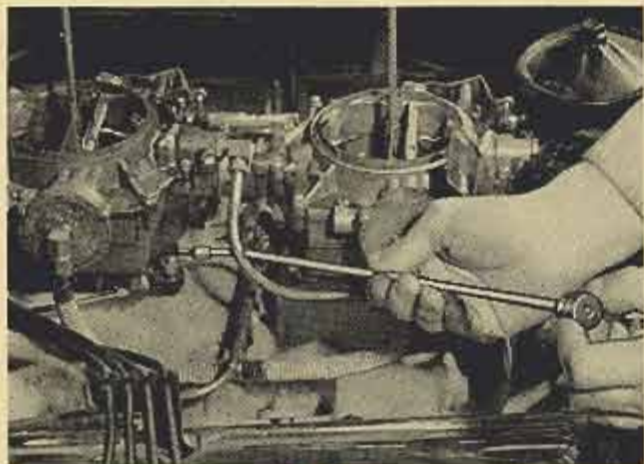

Fig. 2
6. Turn the four idle mixture needles (two each carburetor Fig. 2) all the way in and then back them out one complete turn. The special tool shown will aid in the idle mixture needle adjustments.
7. After the engine is warmed up, adjust the front carburetor idle speed screw "A" to obtain 400 engine RPM with the transmission selector lever in drive position. NOTE: The rear carburetor idle speed screw "B" is not used, therefore, leave it at the position described in item 3.